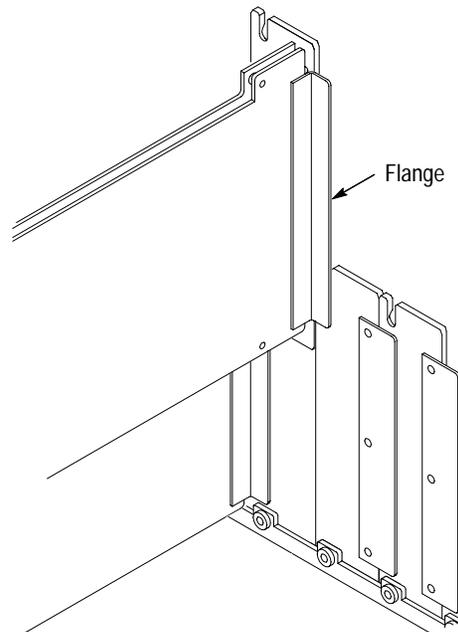
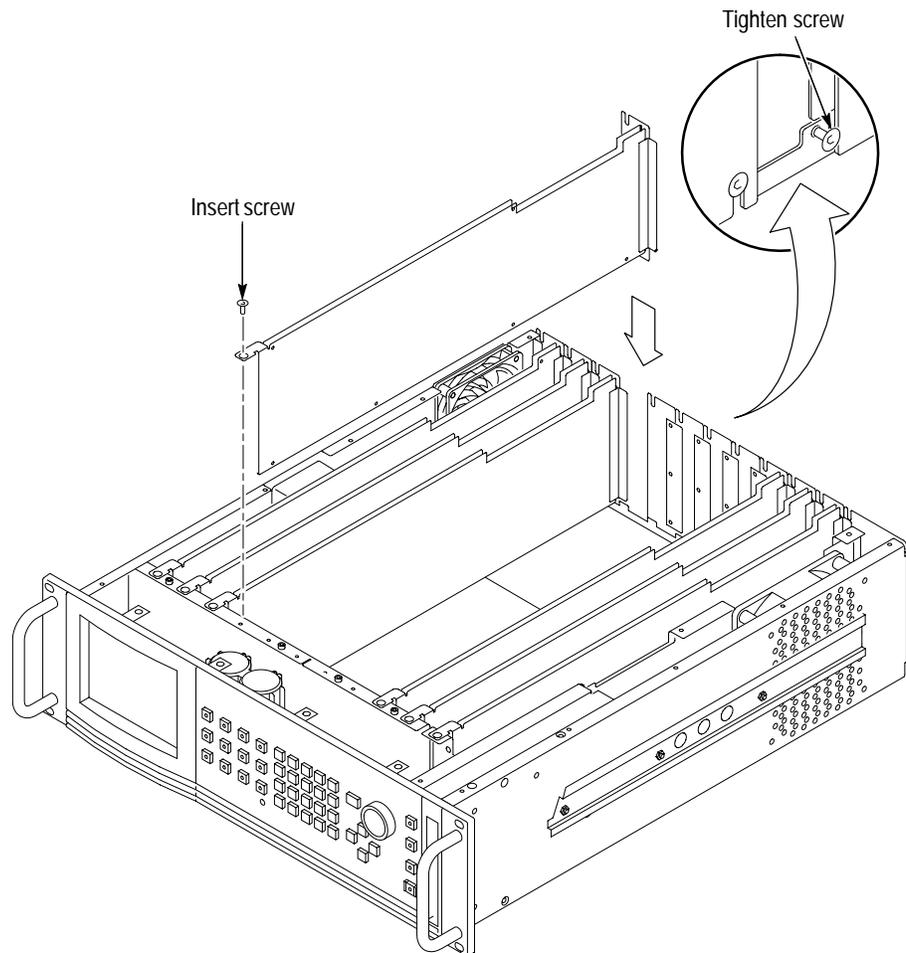

Figure C-4: Module flange
Figure C-5: Module Installation
6. While ensuring correct alignment of the module flange as shown in Figure C-4, lower the module into the desired slot as shown in Figure C-5.